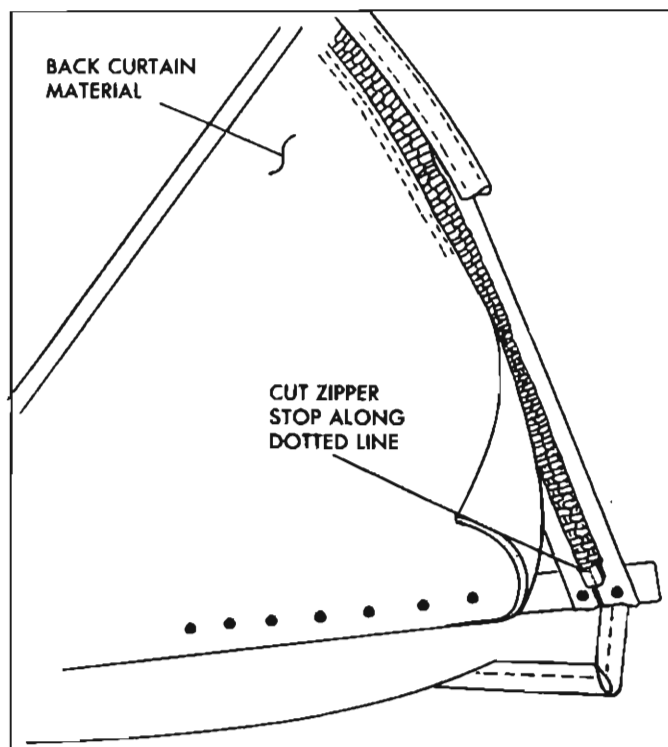

Fig. 62—Back Curtain Vinyl Replacement
9. Using a pair of wire cutting shears or other suitable tool, cut zipper stop along dotted line and remove both halves of stop from zipper (fig. 62).